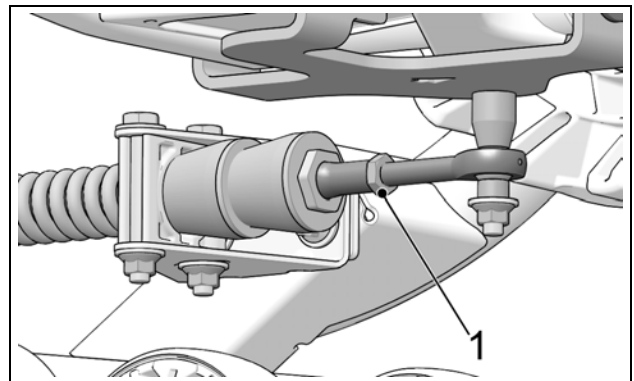

Figure 19
- Re-tighten jam nut (1) to 40 N•m [30 lb-ft] of torque when adjustment is complete. Figure 19.